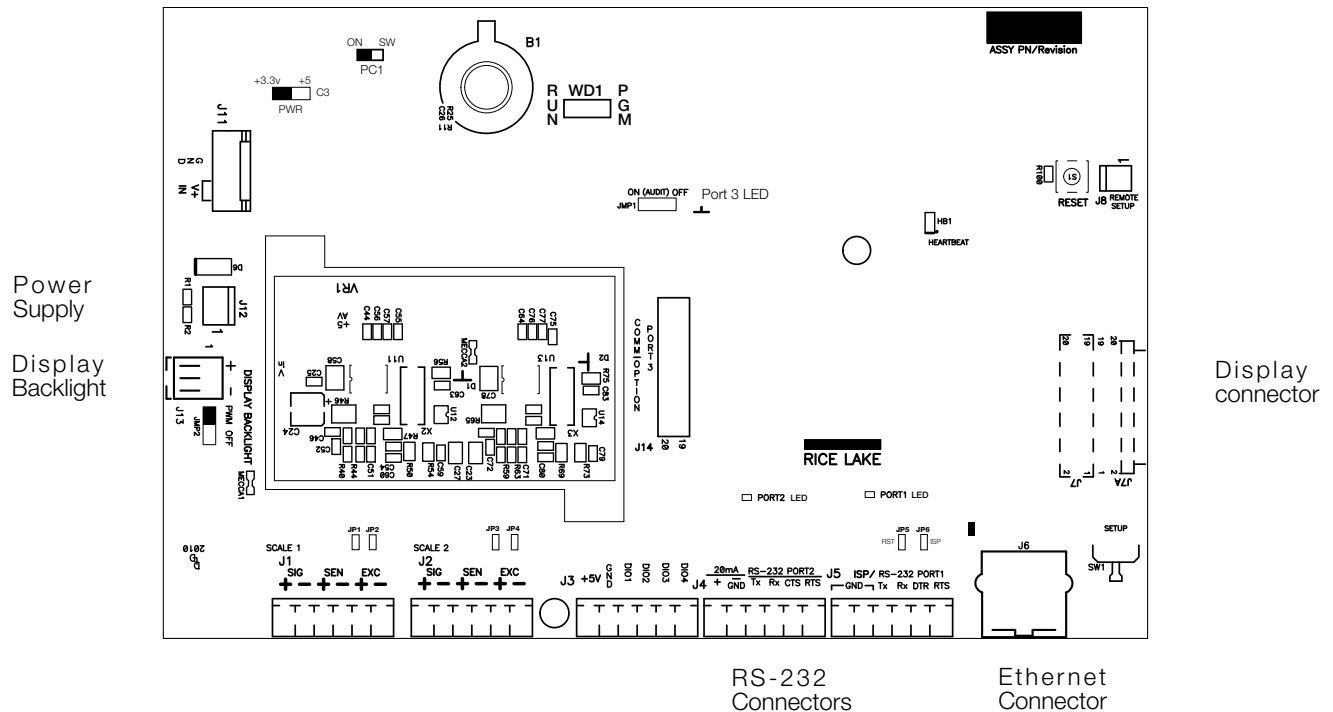

Figure 2-9. Counterpart CPU Board
5. There are several signal LEDs located on the USB option board. Their locations are noted in Figure 2-9.